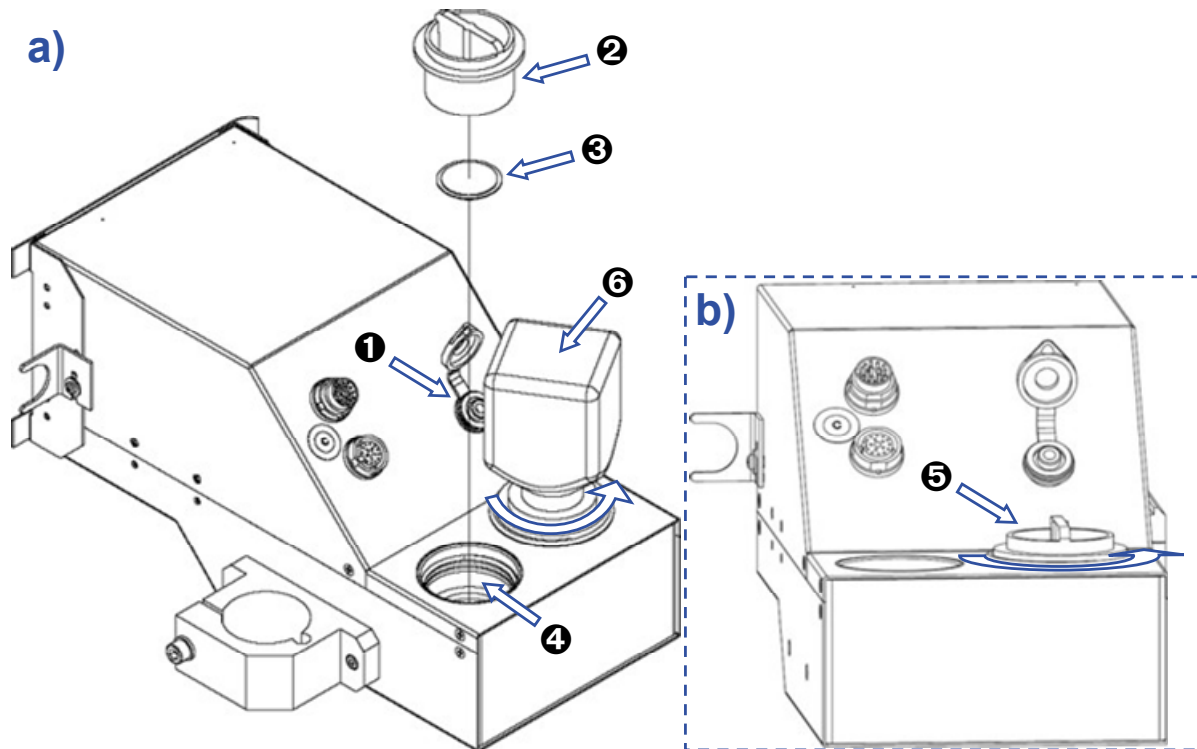

Fig. 2.3.5.1.
- the ink-pot cap ⑤ needs to be screwed in to protect ink against contamination - see Fig. 2.3.5.1. b\),
- the ink-pot vent ① needs to be open (by removing the plug cap) - see Fig. 2.3.5.1.,
- the transponder seat ④ needs to hold the transponder ③ of a previous ink bottle, if there is still some ink in the bottle, or of a new bottle, if the previous one has been emptied - see Fig. 2.3.5.1.
- a). Open the ink-pot vent ① by removing a plug (cap) - see Fig. 2.3.5.1.
- c). Unscrew the ink-pot cap ⑤ (Fig. 2.3.5.1. b) or the empty ink bottle ⑥ (Fig. 2.3.5.1. a) carefully and remove it. Hold the bottle cap while unscrewing the bottle. Avoid unscrewing the bottle by holding the bottle directly because dry ink increases friction and in consequence the bottle can be torn off while the cap can remain unscrewed on the ink pot.